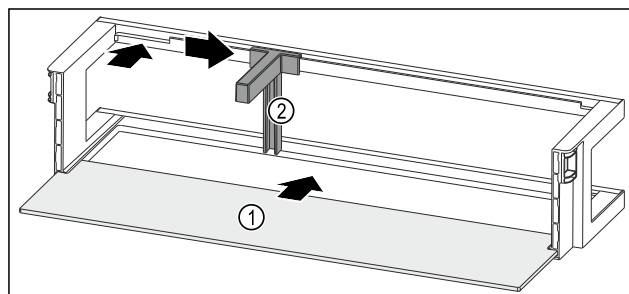

Fig. 129 Door racks with shelf
- Push the shelf Fig. 129 (1) into the side cutouts.
- Insert the bottle holder Fig. 129 (2) into the recess.
- Push the bottle holder Fig. 129 (2) to the side into the desired position.